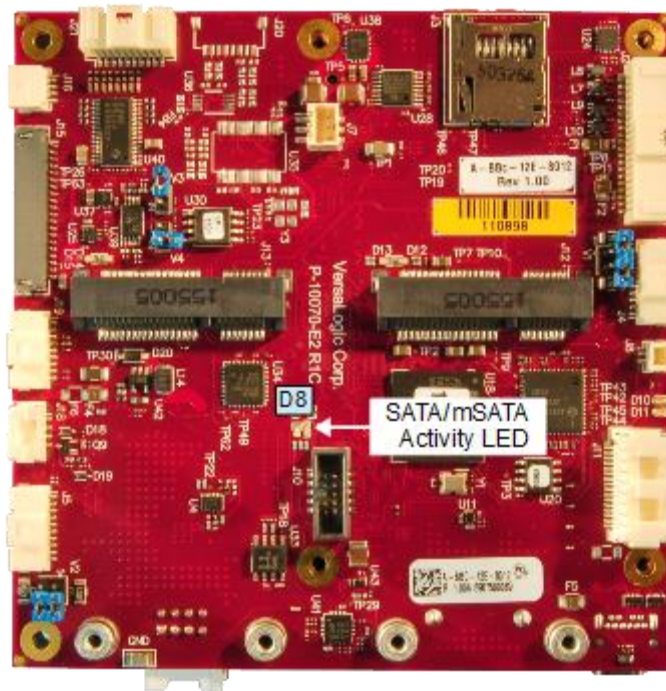

Figure 19. Location of the SATA/mSATA Activity LED
3. This signal drives the blue LED activity indicator shown in Figure 19. This LED lights with mSATA disk activity (if supported by the mSATA module).
Figure 19 shows the location of the SATA/mSATA activity blue LED. This LED indicates activity on either the SATA or the mSATA interface. Not all mSATA drives provide this disk activity signal.